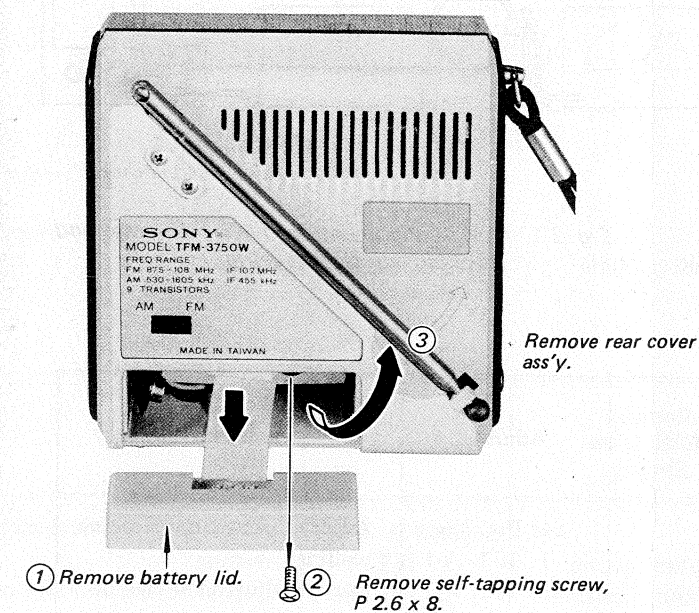

Fig. 2-1.
1. Remove the rear cover ass'y, in numerical order as shown in Fig. 2-1.